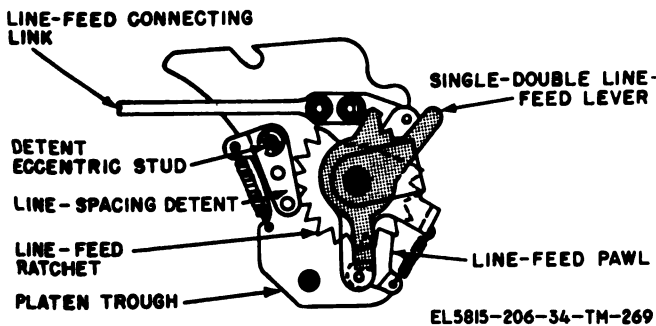

Figure 3-197. Line-feed detent adjustment.
**3-229. Line-Feed Detent Adjustment** (fig. 3-197)